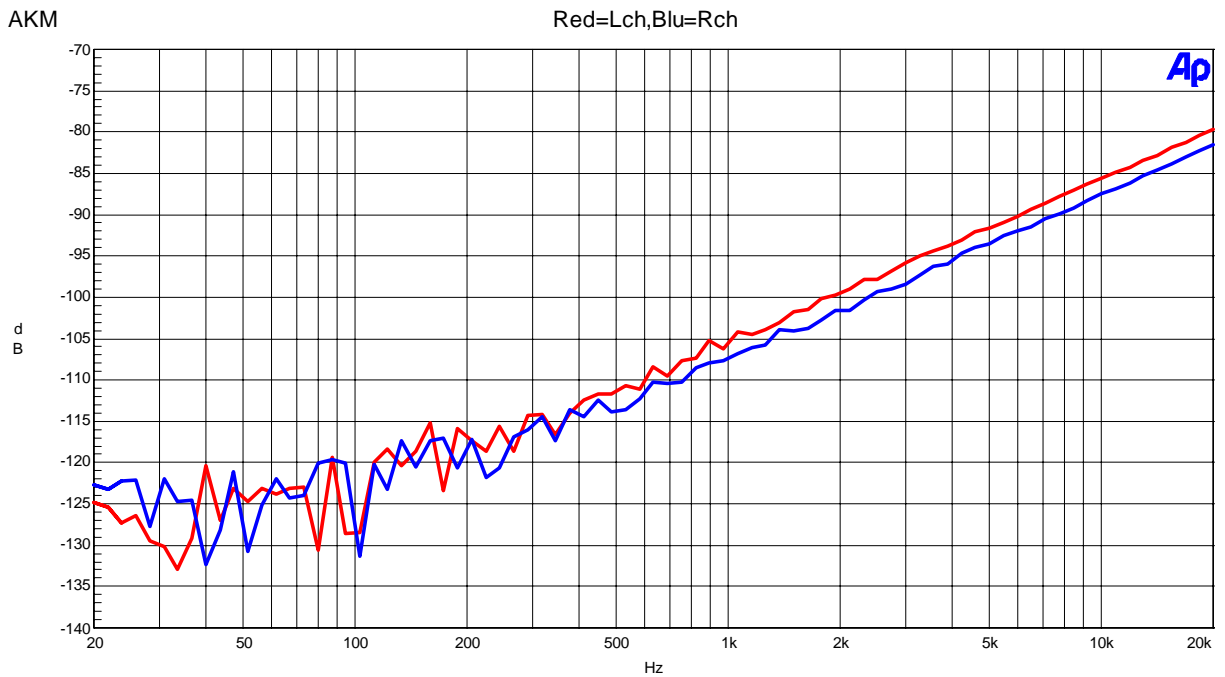

Figure 8. Crosstalk (Input Level=-0.5dBFS)
- Figure 8. FFT (Input Frequency =1kHz, Input Level =-60dBFS)